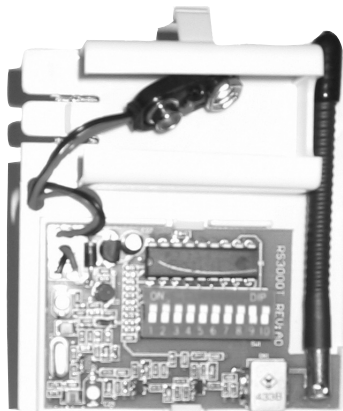

Figure 2
2. Set the dip switches 1-8 on the transmitter module to match the receiver. (figures 2 & 3)
3. Set dip switches 9 and 10 to control the desired zone, tune, and relay output. (figures 2 & 3)
1. Just above the PIR board is a small clip on the case. Pull on this clip and the center portion of the case will swivel down to reveal the radio transmitter and battery slot (figure 2).